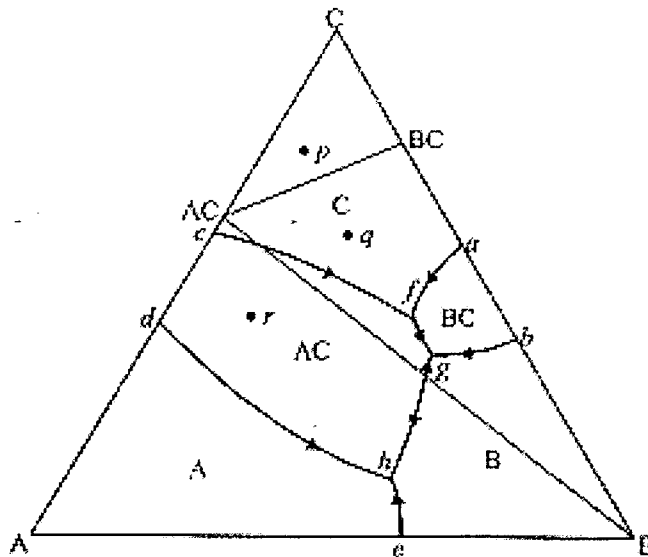

Figure 7 - ternary diagram for ABC system with AC and BC compound
7. [a] Figure 7 is a phase diagram of ABC ternary system which forms two binary compounds, AC and BC.